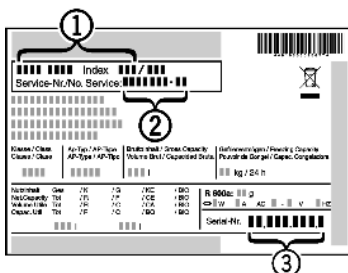

Fig. 24
- ▶ Read the appliance designation *Fig. 24 (1)*, service No. *Fig. 24 (2)* and serial No. *Fig. 24 (3)* off the type plate located inside the appliance on the left-hand side.
- ▶ Notify the customer service, specifying the fault, appliance designation *Fig. 24 (1)*, service No. *Fig. 24 (2)* and serial No. *Fig. 24 (3)*.